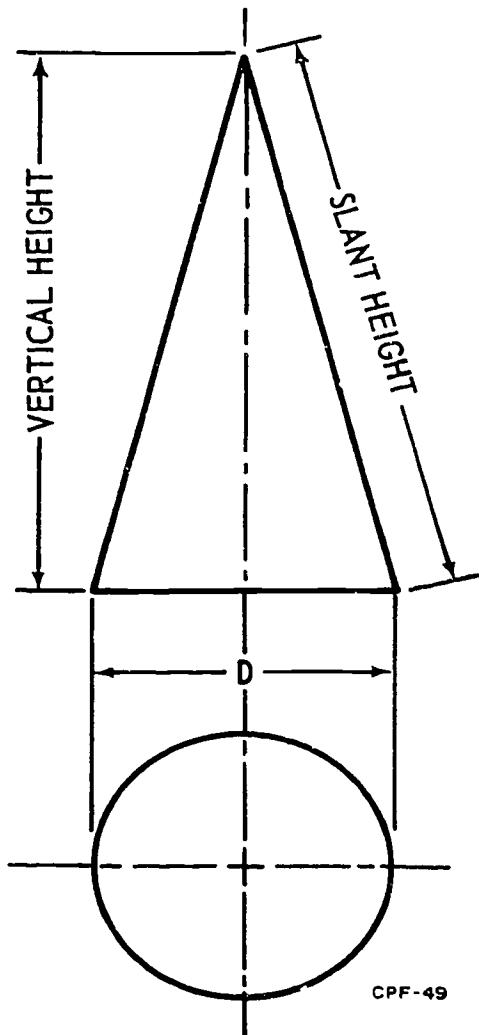

Figure 1-2. Orthographic projections of a cone.
Curved surfaces do not always look curved in an orthographic projection because you are looking at the top, bottom, or side of an object  $90^\circ$  to the surface. In a pictorial drawing, you can see that the edges are curved; but in an orthographic projection, you see the surface broadside, and it appears flat. The example shown in figure 1-2 is a top-view orthographic drawing of a cone. Although you know that the side of a cone is curved, you cannot see the curvature in the drawing. However, from the accompanying plan view, you can see that the base of the elevation view is circular. It is a good idea to keep in mind that lines in orthographic projections are not curved but may indicate a curved surface, and it is up to you to determine the curvature from one of the other views.
**Geometric solids.** On working drawings, the diameter for a sphere usually is given on the view that is most convenient. The two necessary dimensions for a cylinder—length and diameter—can be shown on one view. Often, one view of a cone is used to indicate the diameter and height, although it is better to have two views, as shown in figure 1-2. Two views also are desirable for working drawings, showing the dimensions of a pyramid. These dimensions—vertical, height, slant height, width,